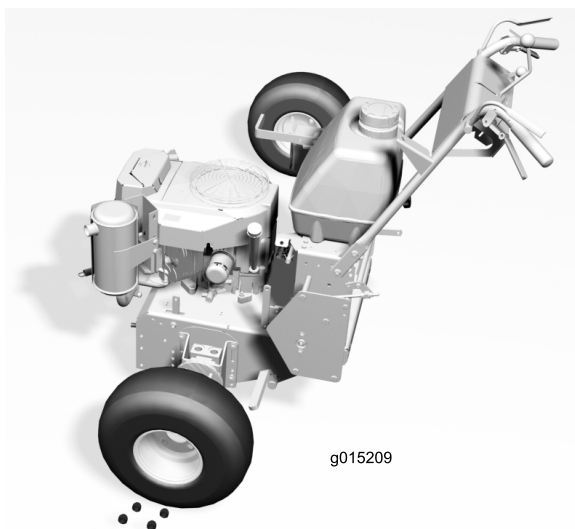

Figure 1
2. Remove both wheels from the traction unit (Figure 1).